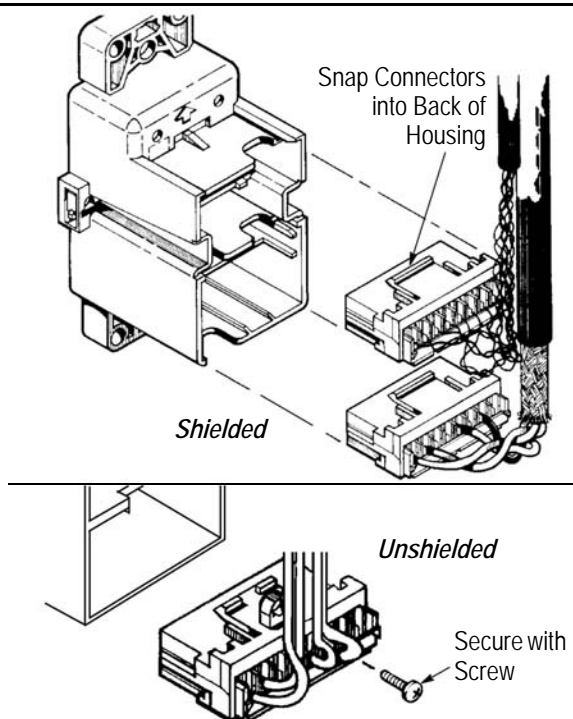

Figure 8
4. INSERTION PROCEDURE (Figure 8)